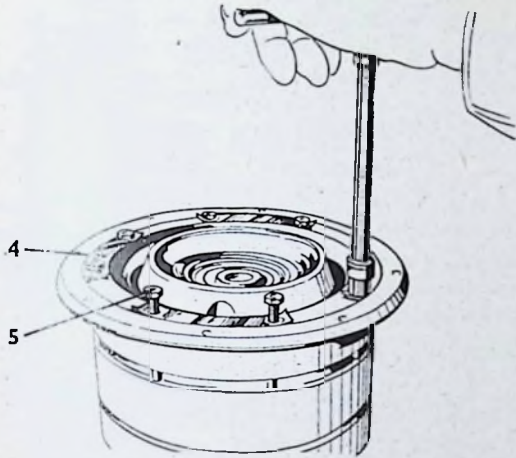

FIG. 70.—Removing Rotor Assembly Bolts.
Invert the assembly, straighten locking strips (4, Fig. 70) and remove rotor assembly bolts (5).